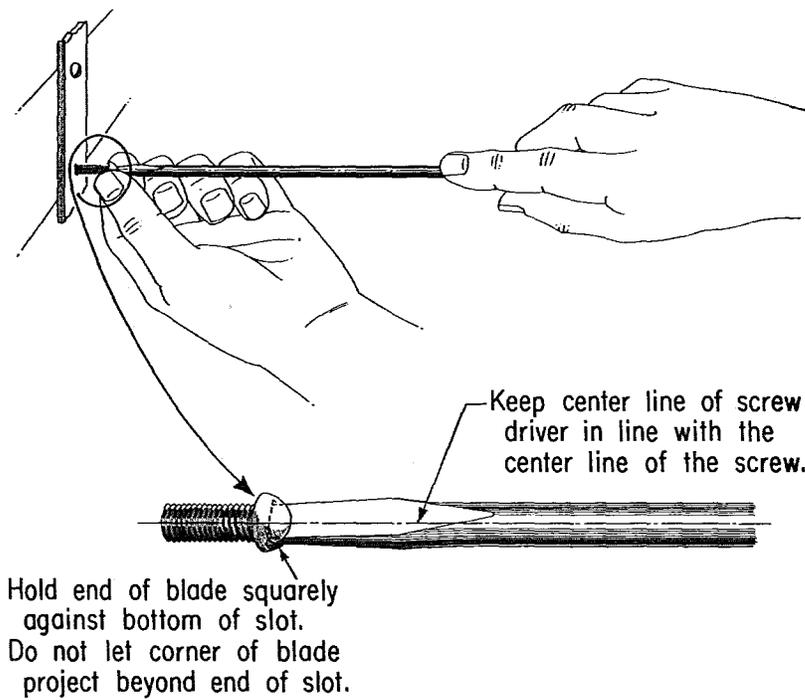

Fig. 3
4.07 To start the screw in the lead hole insert the screw and place the blade of the screwdriver squarely in the slot, then hold the blade and the screw with the thumb and forefinger of one hand to steady and turn the screwdriver with the other. During this process keep the center line of the screwdriver in line with the center line of the screw (see Fig. 3).